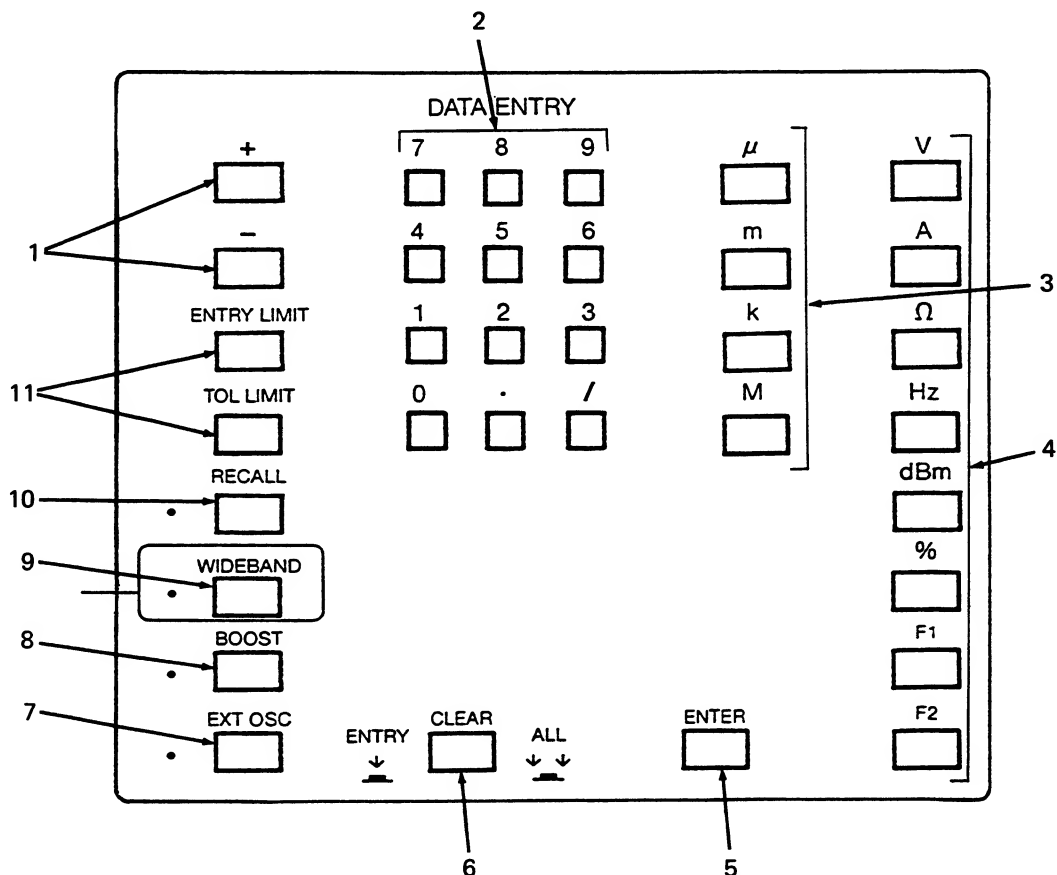

Figure 2-2. Data Entry Group
2-16. Individual items or groupings on the Data Entry keyboard are explained in Figure 2-2 and Table 2-3. In addition, a voltage (V), dBm entry, WIDEBAND, or EXT OSC selection will lock the keyboard from further entries until either the ENTER, RECALL, or CLEAR switch is depressed. If either "Err3" or "Err4" results when ENTER is depressed, the original entry is not changed and the KEYBOARD indicator remains illuminated.